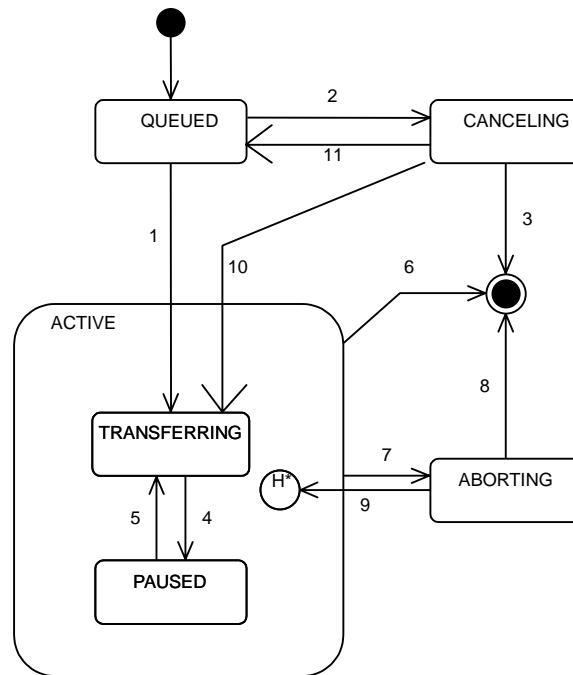

Figure 4
8.3.2.1 The TRANSFER command state model is detailed for Stocker SEM equipment in Figure 4.